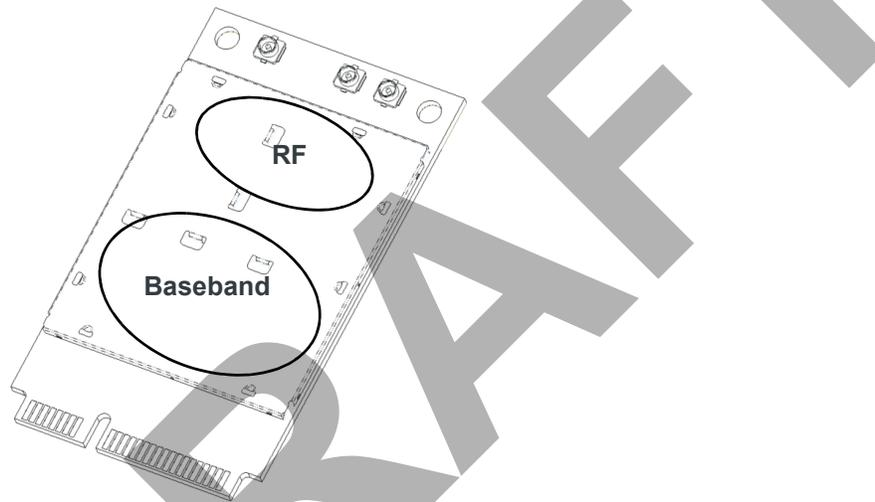

Figure 6-1: Shield locations requiring heat dissipation (Top view)
Specific areas requiring heat dissipation are shown in Figure 6-1:
- Monitor temperature on the underside of the module. Attach thermocouples to the areas indicated in Figure 6-1 on page 47 (Baseband, RF).